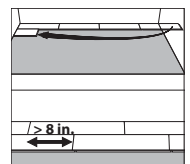

Figure 2
1. Begin the second row with the cut piece from the first row. (Figure 2) If the cut piece is shorter than 8" (20 cm), do not use it. Instead, begin with a new board that is at least 8" in length and allows 8" between the end joints on the adjacent planks.